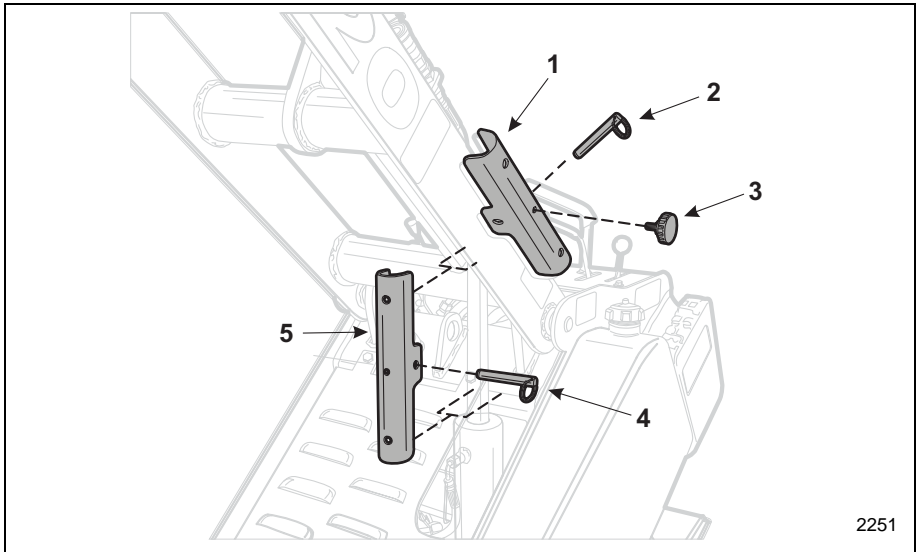

Figure 3-10 Safety Lock Installation
4. Release the cylinder lock from its storage position (Item 1, **Figure 3-10**) by removing the lock knob (Item 3, **Figure 3-10**) and pulling the safety lock pin (Item 2, **Figure 3-10**).
5. Place the cylinder lock (Item 5, **Figure 3-10**) onto the cylinder rod.
6. Fully reinsert the safety lock pin (Item 4, **Figure 3-10**), securing the cylinder lock in the support position. **NOTICE:** Make sure that the safety lock pin goes behind the loader arm cylinder rod.
3. Pull the safety lock pin (Item 4, **Figure 3-10**) fully outwards.
4. Return the cylinder lock to the storage position (Item 1, **Figure 3-10**) on the loader arm.
5. Fully insert the safety lock pin (Item 2, **Figure 3-10**) and the lock knob (Item 3, **Figure 3-10**) to secure the cylinder lock in the storage position.